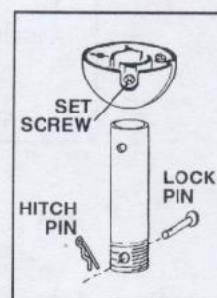

FIG. 8
**Step 3.** Remove downrod hanger ball by loosening set screw, removing the cross pin, and sliding ball off rod. Remove the hitch pin and lock pin. (Fig. 8)